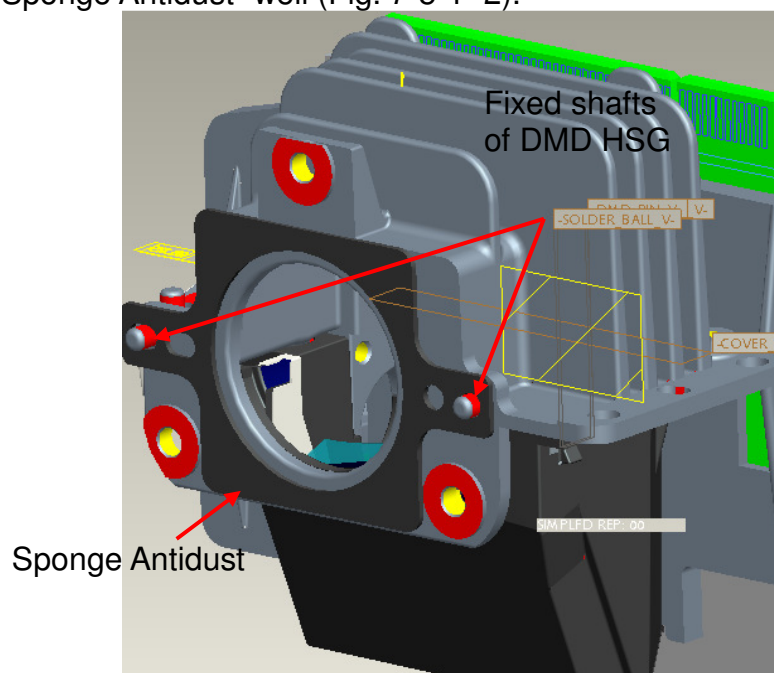

Fig.7-5-1
7.6 Assemble “Sponge Antidust” well (Fig. 7-5-1~2).